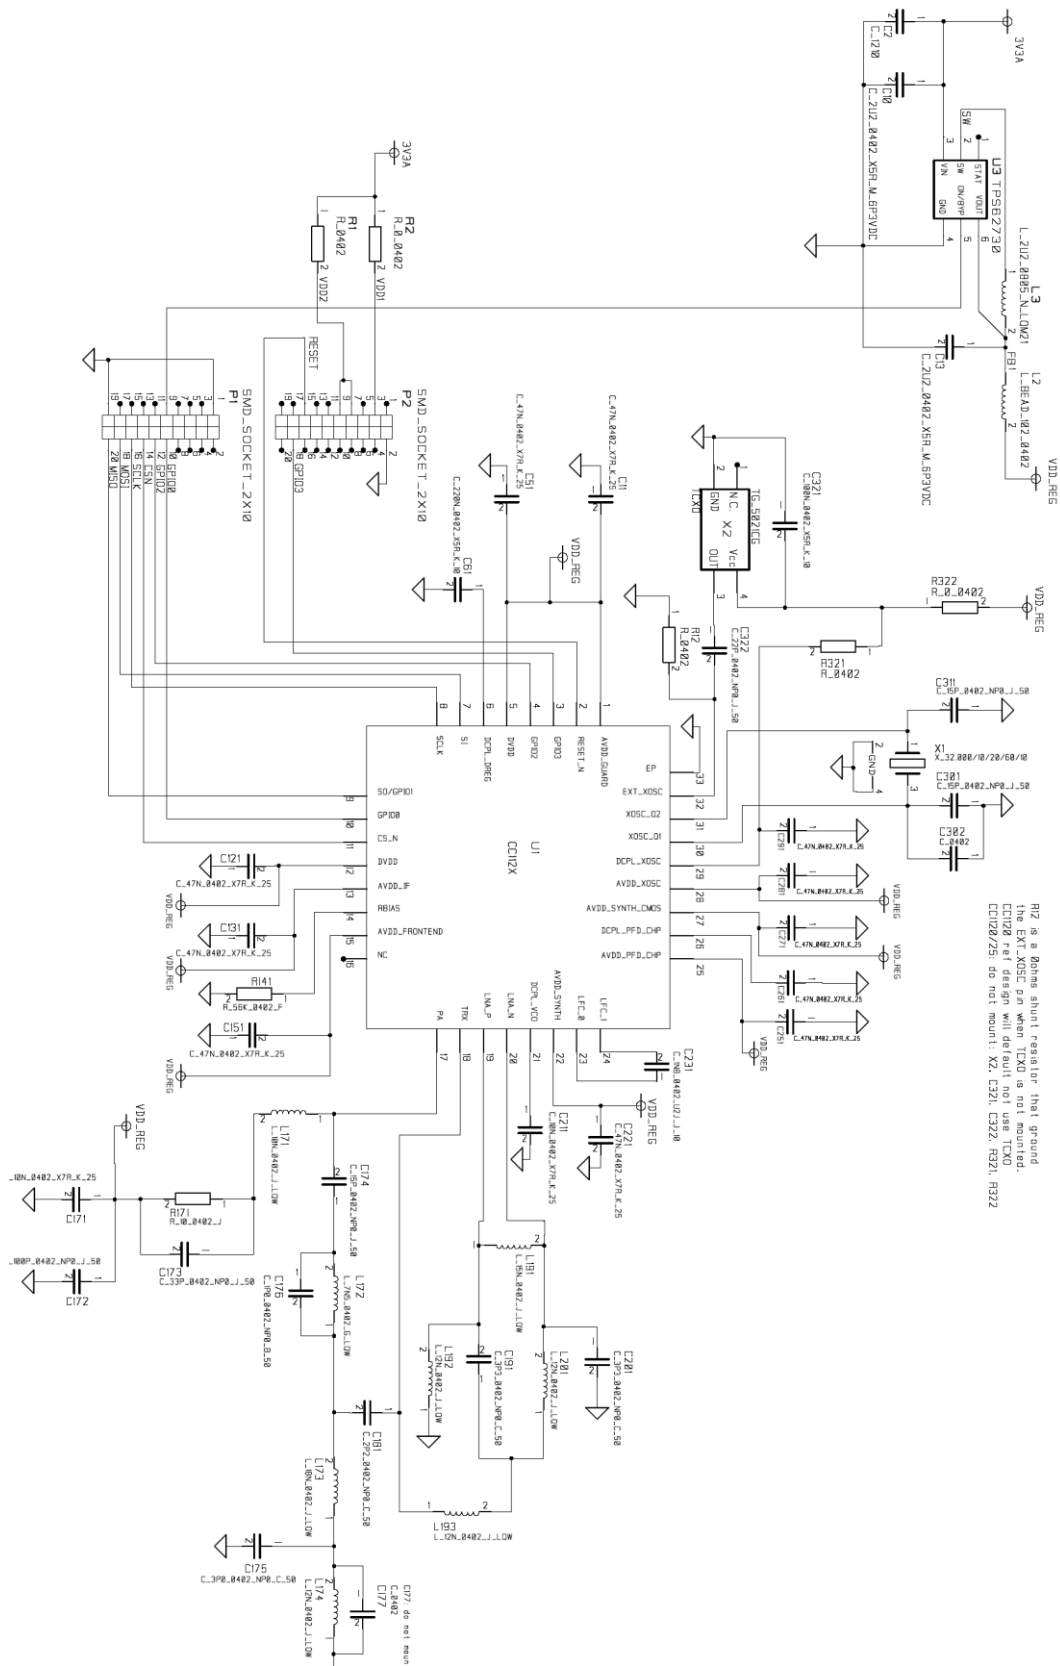

Figure 7.1. TPS62730 + CC1120 868/915 MHz Schematic
Modifications can be made to the CC1120_DCDC_EM_868MHz reference design to achieve less than 20 mA in TX at +10 dBm output power. With reference to CC1120_DCDC_EM_868MHz reference design [2] and Figure 7.1, the following components in the external low-pass (LP) filter and PA biasing need to be changed/removed: